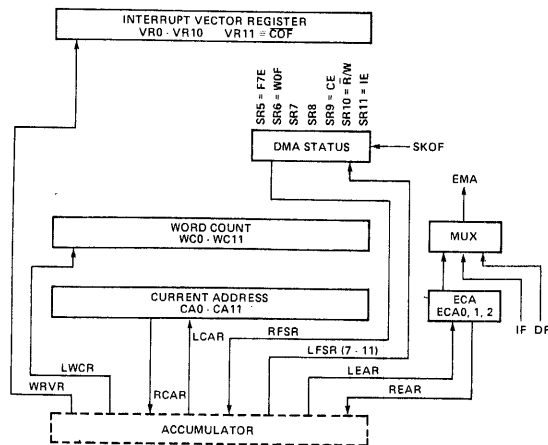

FIGURE 3: SDMA REGISTERS
A. Simultaneous DMA Channel Figure 3.